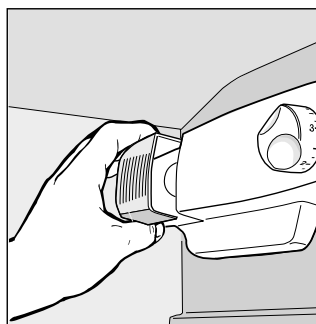

Fig. 3
- Replacing the light bulb. The bulb for lighting the interior of the appliance is located at the back of the thermostat box. Unscrew the burnt bulb and replace it with another bulb of no more than 15 Watt, follow the instructions illustrated in fig. 3.